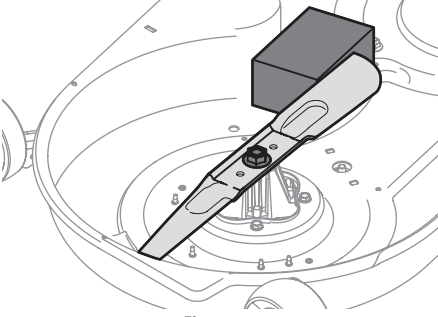

Figure 46
2. Place a block of wood between the deck housing baffle and the cutting blade to act as a stabilizer (Figure 46).
3. Place a block of wood between the deck housing baffle and the cutting blade to act as a stabilizer (Figure 46 on page 32).